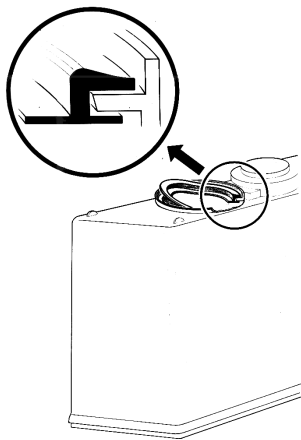

figure 9
- 3 - Fit bowl gasket to the bowl leaving the thickest part of it outside the bowl (see figure 9).